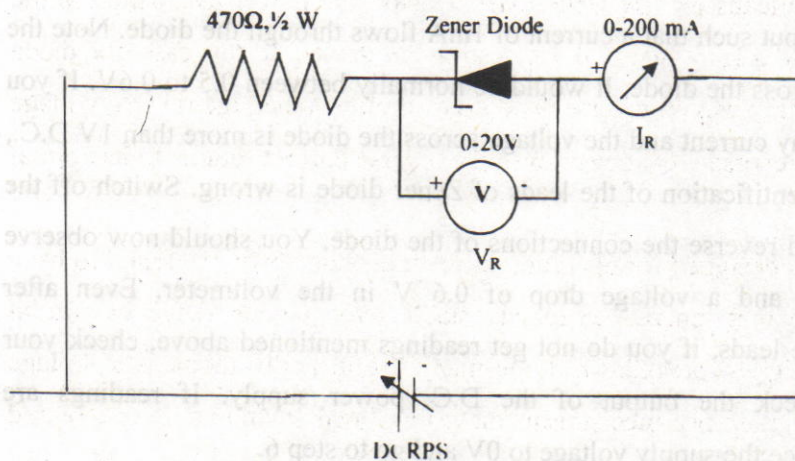

Fig.2.2
8. Connect the circuit as shown in Fig.2.2 for drawing the reverse bias characteristic, by reversing the diode connections.